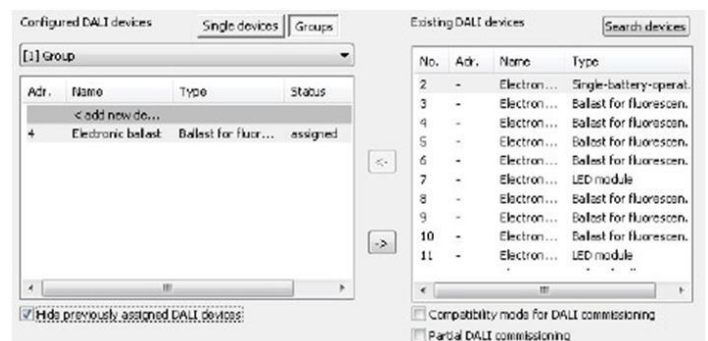

Figure 68: Operating device assigned to a group
- If new single devices are to be created (e.g. in empty groups), assign one or more found DALI operating devices using <- or "Drag and Drop" with the mouse. If an assignment is to take place to available free single devices, first highlight these in the left pane and then assign them using <- or, alternatively, using "Drag and Drop" with the mouse. In the right-hand section, the assigned operating devices disappear from the list box and appear in the left-hand section for the selected group.(Figure 68). The right-hand pane contains only the remaining operating devices, which are not yet assigned to a group.